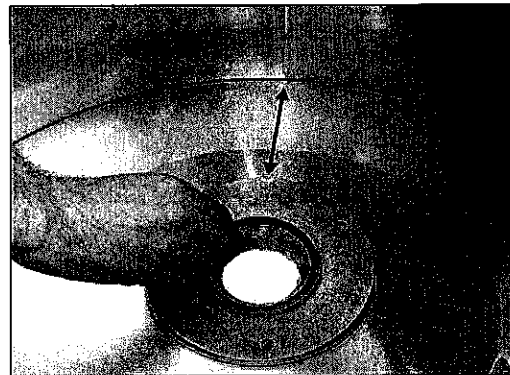

fig. 21
- The deflector notch must match up to the vertical welded joint on the outer drum as indicated by the arrow. (fig. 21).